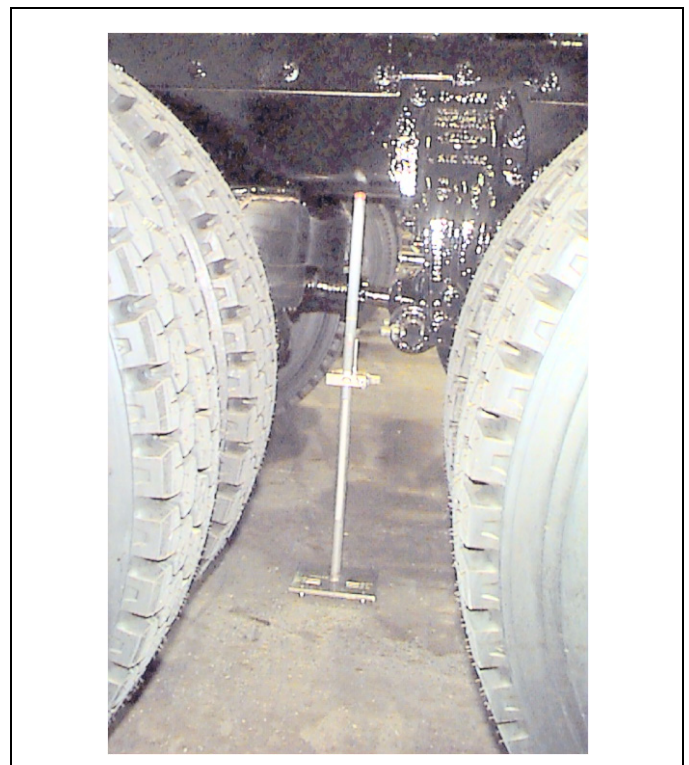

Figure 1-5 Illustration of Measuring The Ride Height on a Tandem Suspension
8. Move the ride height gauge under the frame rail, either forward of a single axle (but not forward of the suspension bracket) or between tandem axles (see Figure 1-5).